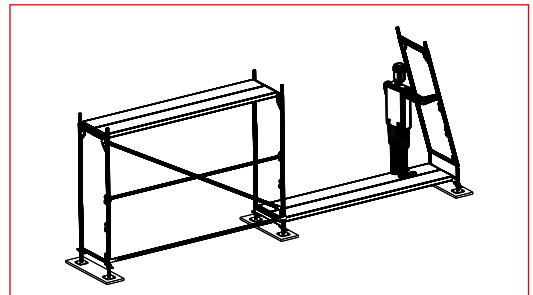

fig. 3.9
- 2.2.8.** A wall scaffolding is braced on the scaffolding external plane parallel to the wall by performing multiplane or tower bracing. See fig. 3.9, p. 11.
Place the platforms on the frame U-sections. Insert the diagonal into the frame gusset plate hole from the external side (frame stand with the railing couplings) and screw the other end of the diagonal to the lower part of the opposite vertical frame. Using the level set the frames vertically and level the assembled bay. Starting from this initial bay assemble the next bays by attaching the frames on the base jacks, connecting them with the assembled bays by using railings and placing the platforms (fig. 3.9).
Each braced bay has to contain a horizontal brace attached by screwing it to the frame stands just above the base jack but (fig. 3.9).